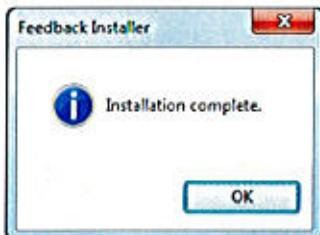

Figure 21 Installation Complete window
6. The software will begin installing. When install an 'Installation Complete' window will appear (Figure 21).